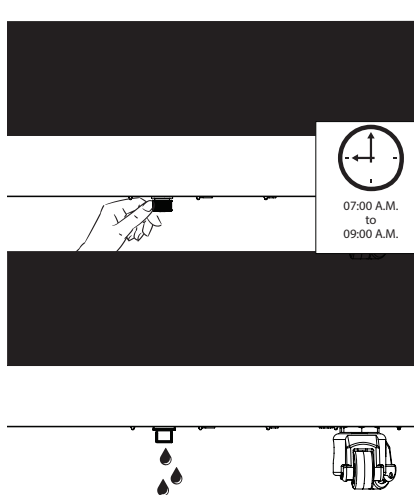

fig. 17
3. Place a tray under the condensation water drain. If the appliance has an auto-drainage system, no need for tray. See fig. 17